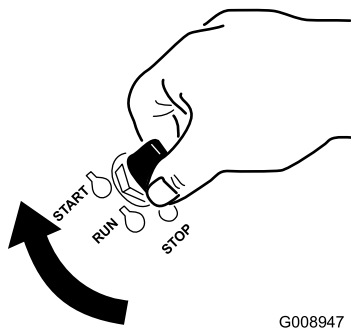

Figure 13
1. Turn the ignition key to the Start position (Figure 13). When the engine starts, release the key.
- Turn the ignition key to the Start position (Figure 13). When the engine starts, release the key.